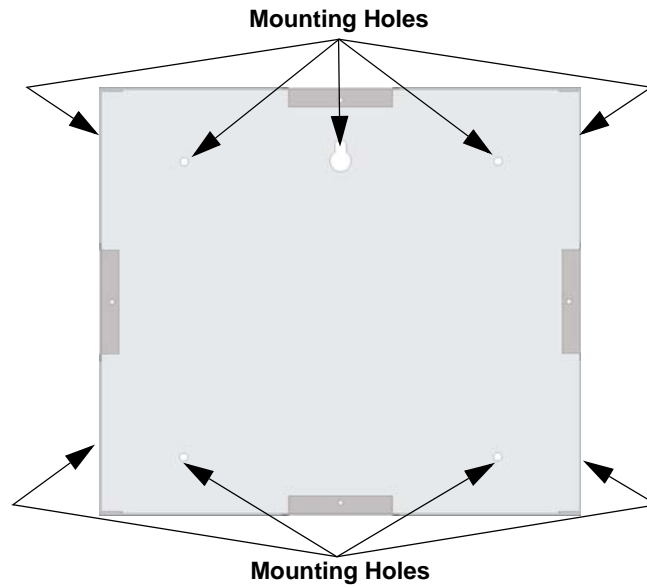

Figure 4.17 Back Box Mounting Holes
1. The back box dimensions are 9-9/32" W x 8-3/8" H. The minimum depth 2". The back box can be mounted prior to the complete installation of the 6855 using any of the mounting holes shown in Figure 4.17.